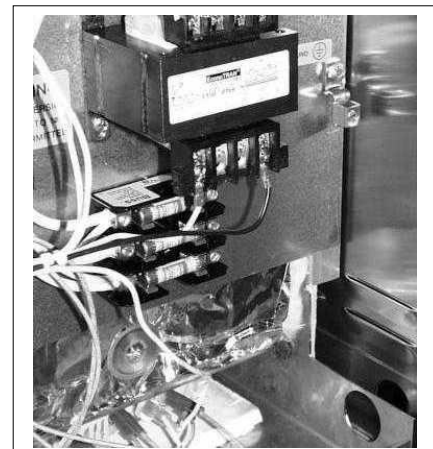

Figure 3-3
2. Make the electrical connection using flexible conduit, per local code. See Figure 3-3.